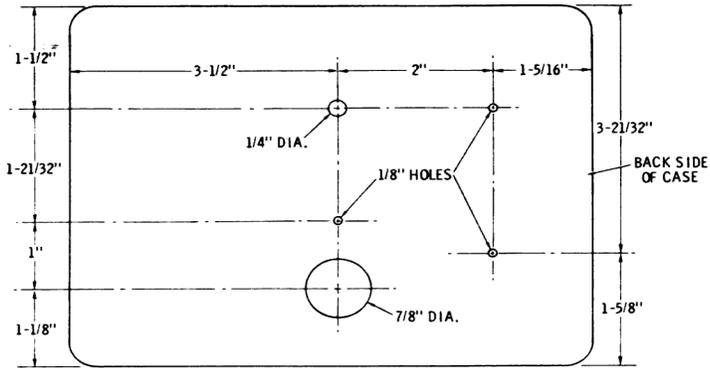
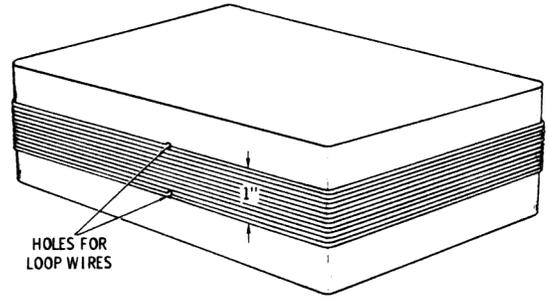
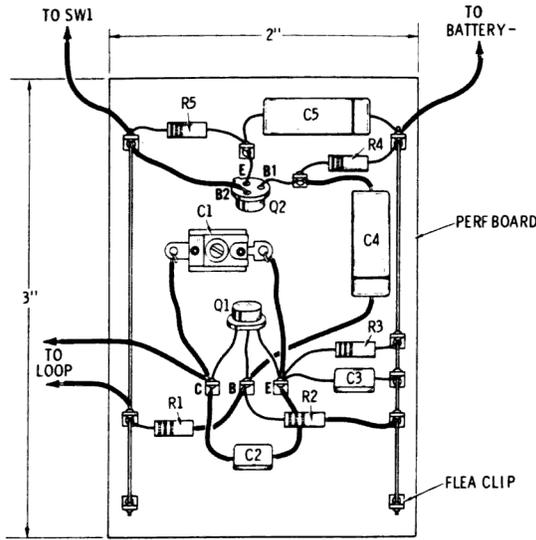
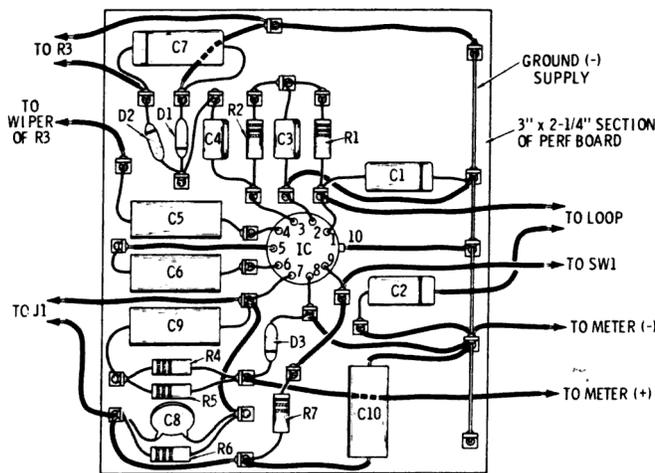

Figure 4: Transmitter housing.
Figure 5: Receiver/transmitter loop location.
Figure 6: Transmitter parts layout.
Figure 7: Receiver parts layout.
**Transmitter** - Because it will be needed to check and tune the receiver, start with the transmitter. The first step is to drill and cut all holes in the case to correspond with those shown in Fig. 4. This must be done with care as the case material will damage easily if abused. After the cutting and drilling have been completed, the loop coil should be wound on the perimeter of the case (Fig. 5). Tape the coil with a good quality cloth tape. This will help protect against coil damage during construction and treasure hunting. All components should be mounted and wired to correspond with the transmitter schematic and to match the drawing in Fig. 6.
The receiver will function best if construction matches the drawing in Fig. 7. The metal case of the gain control R3 must be connected to the negative side of the circuit. This can be done by soldering a wire from the case of the control to the circuit ground. The loop coil should be wound to match exactly the transmitter loop in Fig. 5. A plug and socket are used in the receiver to link the circuit to the loop antenna.